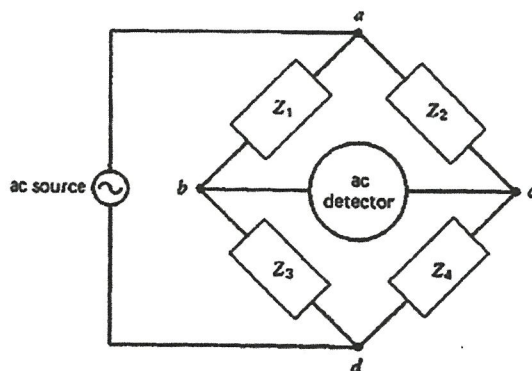

Figure Q3(d)
- (d) The impedances of the AC bridge in **Figure Q3(d)** are given as follows: